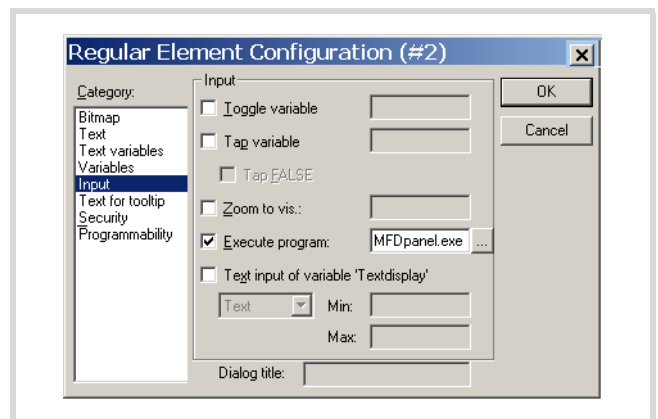

Figure 20: Configuring an element
- ▶ Double-click the button with the left mouse button. The window will be displayed as shown in figure 20.